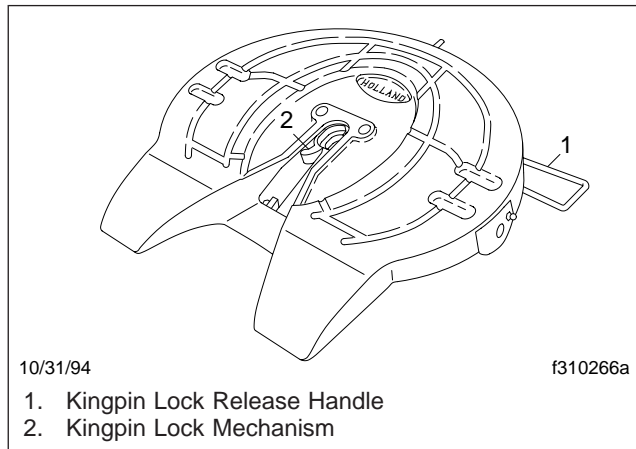

Fig. 11.1, Holland Fifth Wheel
Holland fifth wheels (Fig. 11.1) are bracket-mounted to the tractor frame in a position that best distributes the trailer load over the tractor axles.
6. Release the kingpin locking mechanism by pulling the kingpin lock control handle (Fig. 11.1) to the outward position.